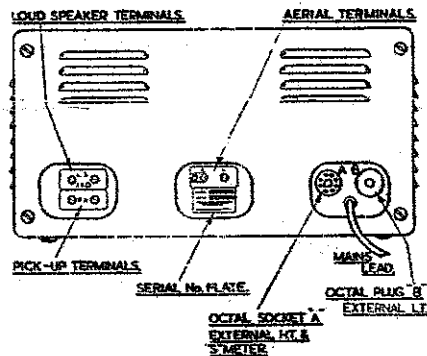

Fig. 2
D.C. mains supplies are entirely unsuitable and if connected will cause serious damage. Ensure that the octal plug is in place in the octal socket "B" (nearest the side of the cabinet) as shown in the drawing, Fig. 2.
The flexible lead from the meter terminates in an octal plug which should be inserted in the socket marked "A" in Fig. 2 at the rear of the receiver.
* As specified under the chassis (see Fig. 2)